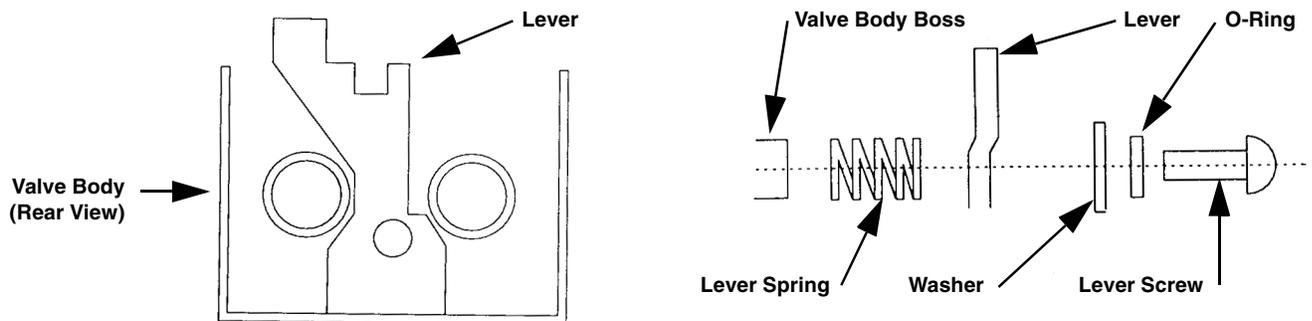

FIGURE 1
9. Place lever spring over valve body boss (see Figure 1).
10. Assemble *Self-Serve Lever* onto valve body by inserting top end of lever (switch actuation end) through slot on bottom of valve body and positioning hole in lever over valve body boss (see Figure 1).